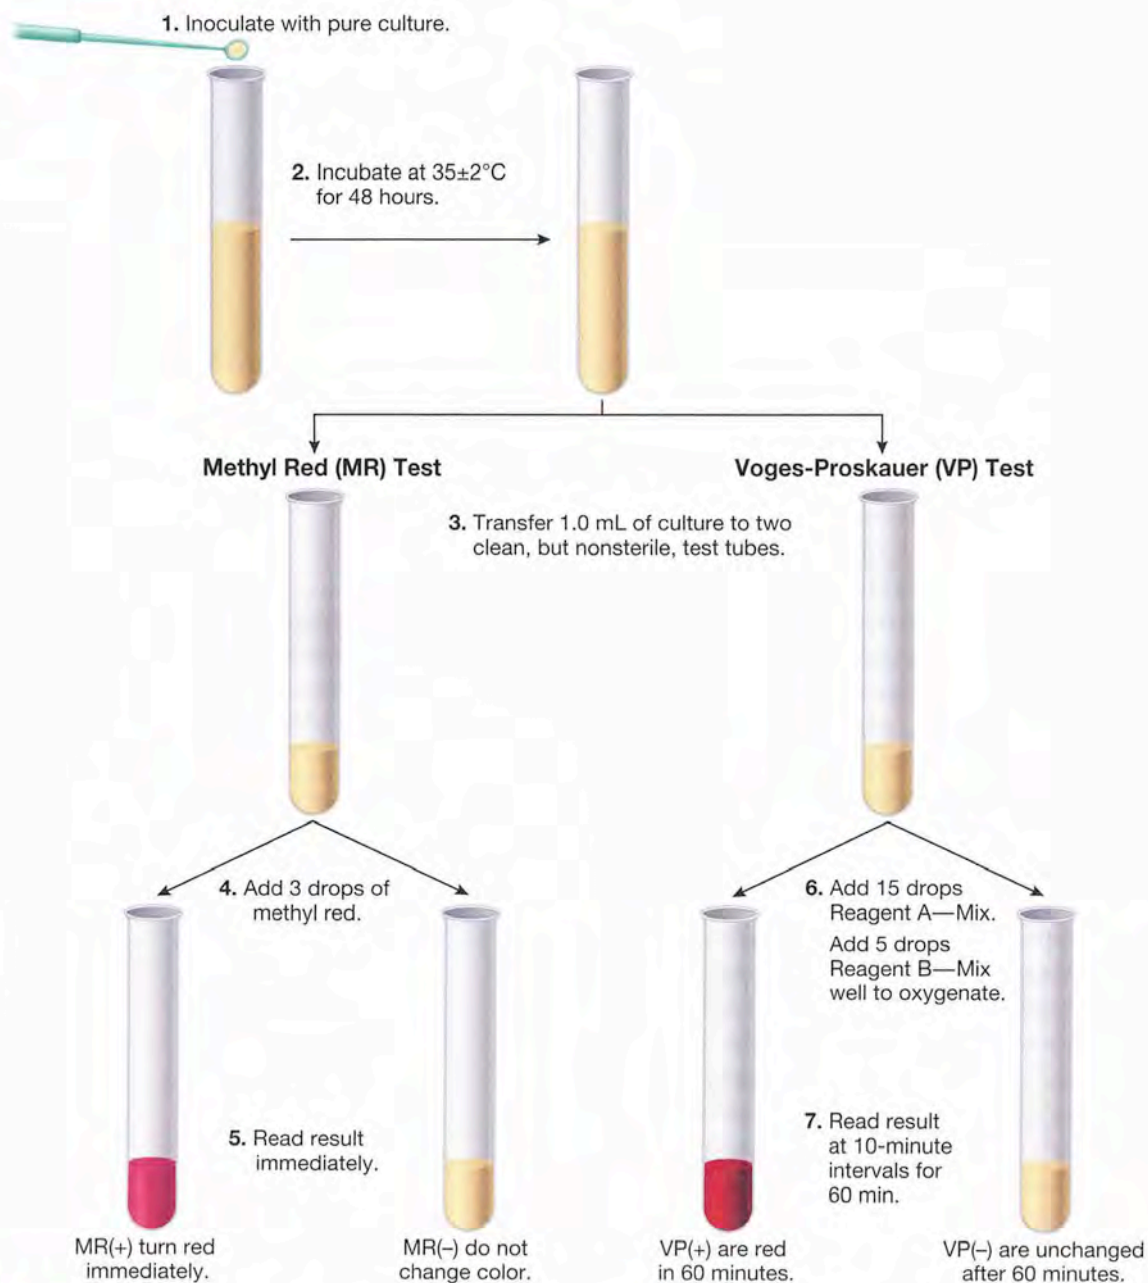

FIGURE 28.4 Procedural Diagram for the Methyl Red and Voges-Proskauer Tests •
For this test we inoculate only one tube of media, but after incubation we transfer 1 mL of the culture to a clean test tube to serve as the MR portion of the test and another 1 mL of culture is transferred to a tube and analyzed for the VP part of the test (Fig. 28.4).
Today you will perform methyl red and Voges-Proskauer tests on *Escherichia coli* and *Enterobacter aerogenes*. After a 48-hour incubation period, you will observe the results of a mixed acid fermentation and a 2,3-butanediol fermentation. The exercise involves transfer of a portion of broth containing living organisms and the addition of measured reagents to complete the observable reactions. Please use care in your transfers and in your measurements. Also, wear a lab coat, gloves, and chemical eye protection when performing this laboratory exercise. For help with the procedure, refer to Figure 28.4. You'll also find Tables 28.1 and Table 28.2 helpful.
- 2 Mix and Transfer Your Samples:** Mix each broth well without splashing into the cap. Transfer 1.0 mL from each tube into two nonsterile tubes (Fig. 28.4). One tube will be designated for the MR test; the other will be for the VP test. Therefore, by the end of this step you should have one MR tube and one VP tube for each original sample (six tubes total if you started with three samples).